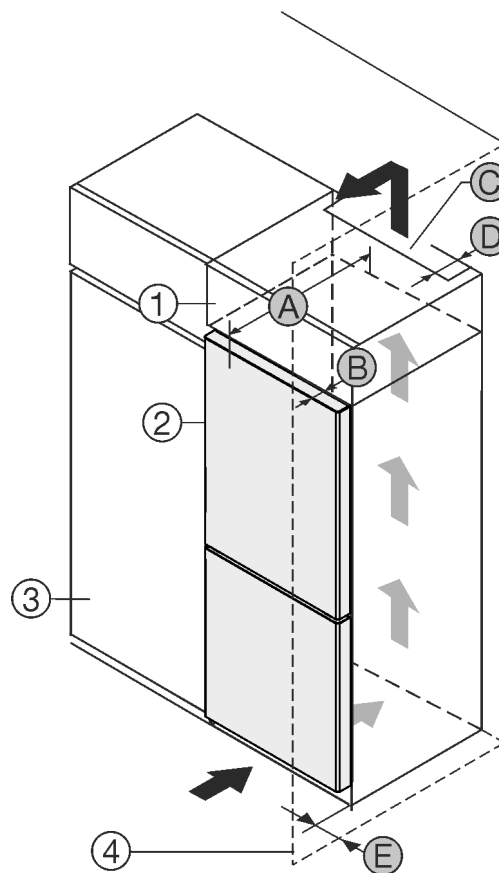

Fig. 1
- (1) Top cupboard *
- (2) Appliance *
- (3) Kitchen cabinet *
- (4) Wall *
- (A) Appliance depth *
- (B) Door depth *
- (C) Ventilation cross section *
- (D) Distance to the back of the appliance *
- (E) Distance to the side of the appliance *
You can place the appliance directly beside the kitchen cabinet Fig. 1 (3).*
There must be a ventilation shaft at the depth Fig. 1 (D) of the back of the top cupboard over the entire width of the top cupboard.*
The ventilation cross-section Fig. 1 (C) must be maintained under the ceiling.*
If the appliance is set up with the hinges next to a wall Fig. 1 (4), the distance between the appliance and the wall must be at least 13 mm.*
If the appliance is set up with the hinges next to a wall *Fig. 1 (4)*, the distance between the appliance and the wall must be at least 20 mm.*
In order to be able to fully open the door, the appliance must protrude by the depth of the door *Fig. 1 (B)* from the front of the kitchen cabinet. The appliance may protrude further depending on the depth of the kitchen cabinets *Fig. 1 (3)* and whether wall spacers are used.*